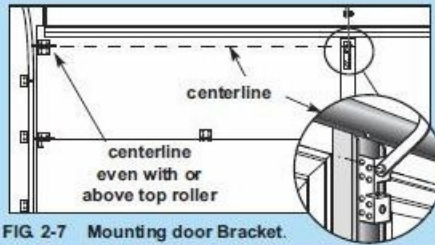

FIG 2-7 Mounting door Bracket.
- Door bracket is mounted as high on door as possible along vertical centerline and **NO LOWER THAN** top set of rollers (Fig. 2-7).